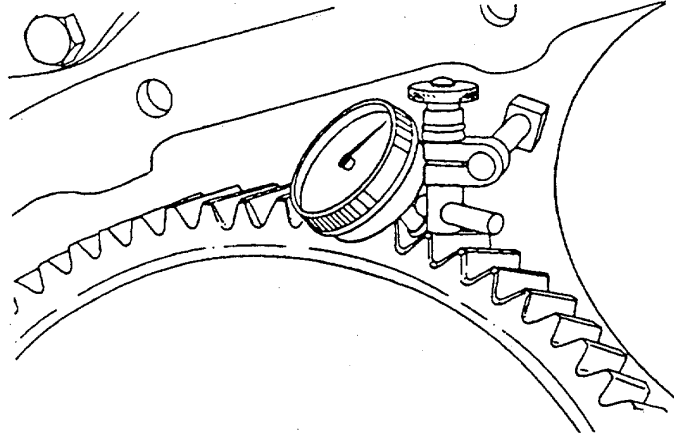

FIGURE 3-55. Camshaft Gear Backlash Measurement.
- (1) Put the tip of the dial indicator against a tooth on the camshaft gear (Figure 3-55).
- (2) Turn the camshaft gear by hand as far as it will freely move, and set the dial indicator at "0" (zero).
- (3) Turn the camshaft gear by hand in the opposite direction as far as it will freely move, and read the dial indicator. Backlash between the camshaft and the crankshaft gears should be between 0.002 inch (0.05 mm) and 0.20 inch (0.50 mm).